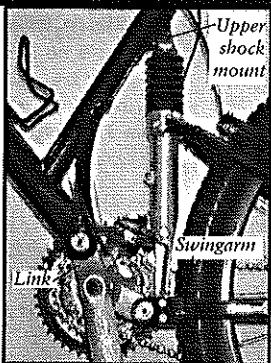

Fig. 29
1. Support the swingarm and remove the bolt at the upper shock mount (Fig. 29).
1. Install the upper shock bolt through the reducers, axle, and Igus bearings (Fig. 29). The shock mount bolt uses Spiralkut threads, so does not require Loctite. Tighten the bolt to 61-75 lb•in (6.9-8.5Nm).
3. Attach the upper shock mount hardware (Fig. 29) and tighten the shock mount bolt to 61-75 lb•in (6.9-8.5Nm).